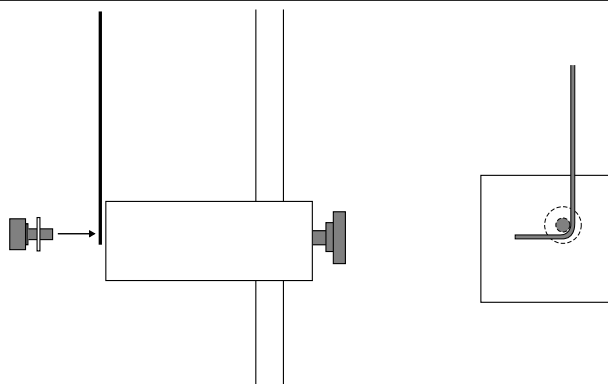

Figure 4
6. Clamp the other end of the wire under the washer of the lower wire clamp, as shown on the left in Figure 4. Make sure that the elbow of the bend in the wire fits snugly against the axle of the thumbscrew, as shown on the right in Figure 4.